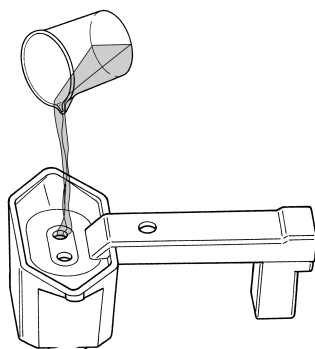

Figure 13
A portion of the second fuel sample is poured from the beaker into the tester's fuel test ports. The tester's funnel/bowl does not have to be completely filled to perform an accurate test. Twenty (20) milliliters of fuel is sufficient to perform this test (*see figure 13*). The fuel can enter the test cell through either of the two fuel test ports. A good indication that you have enough fuel in the tester is when the fuel is at least at the top of each fuel test port.